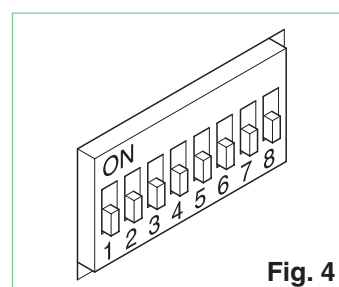

Fig. 4
Reposition all the DIP switches in the OFF (0) position as shown in the Figures 4.